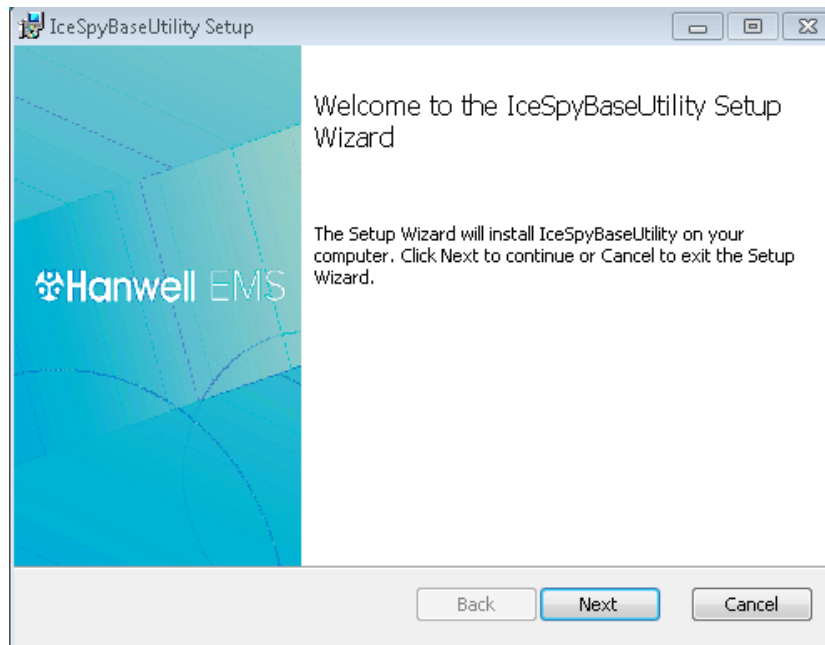

Figure 87
- If you ticked **Install EMS Remote Management Tools** in the **EMS Installer** window (see Figure 13), the **EmsRemoteManagementTools Setup** window is displayed. See Figure 87: